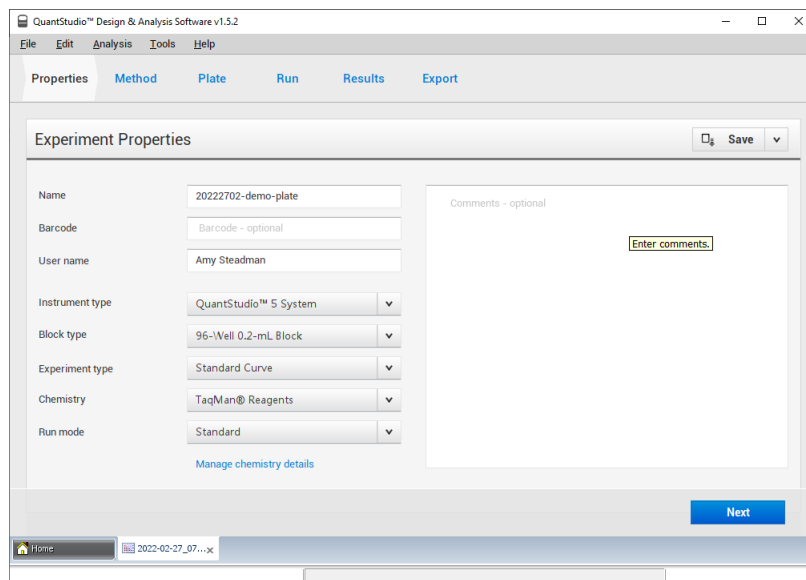

Figure 2: Properties tab on QuantStudio 5 software
9.2.4.5. Ensure all fields are entered as shown in **Figure 2**.